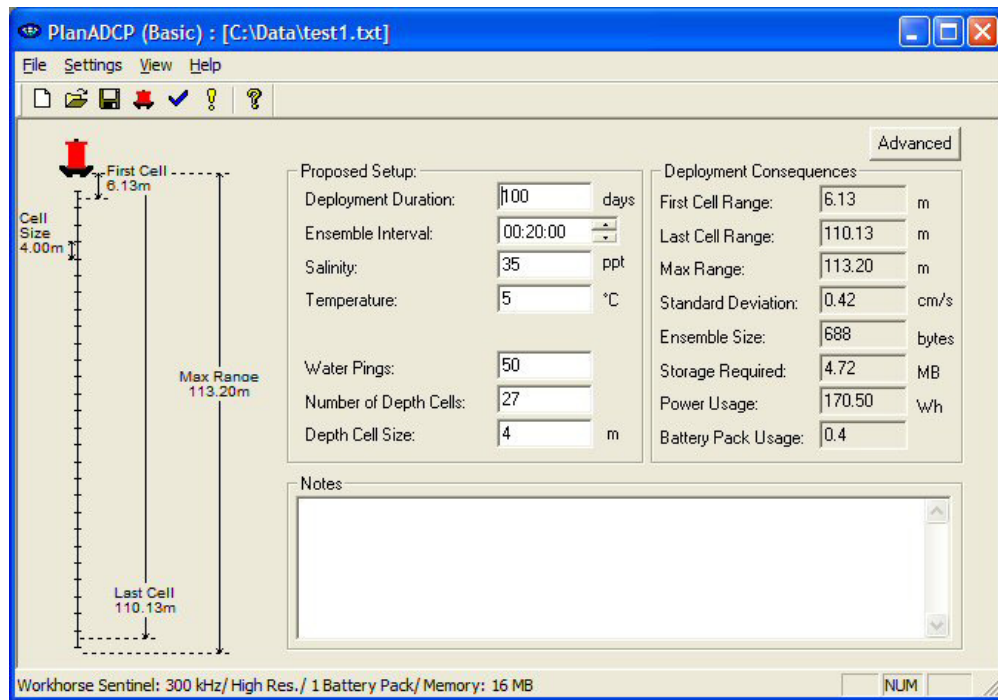

Figure 33. Basic Screen (No Bottom Track)
- n. The *PlanADCP* (Basic) Screen opens using the settings you selected with the wizard (see Figure 33, page 31).
On the *PlanADCP* (Basic) Screen (see Figure 33, page 31), click the **Advanced** button to bring up the **Advanced** setting screen.